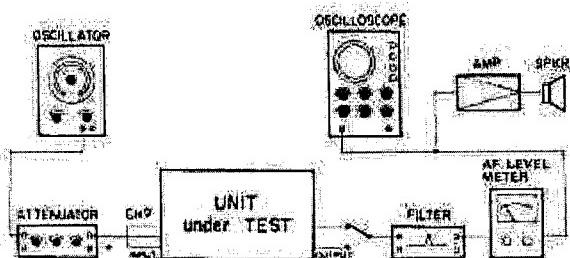

Fig. 9-7-15: Crosstalk Measurement Set-Up
1. Connect test equipment as shown in Fig. 9-7-15.